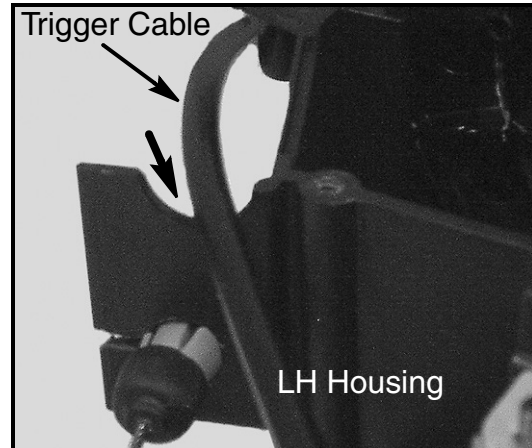

FIGURE 17
26. Before replacing the RH housing onto the LH housing ensure that the trigger cable is set in the half slot as shown in Figure 17.